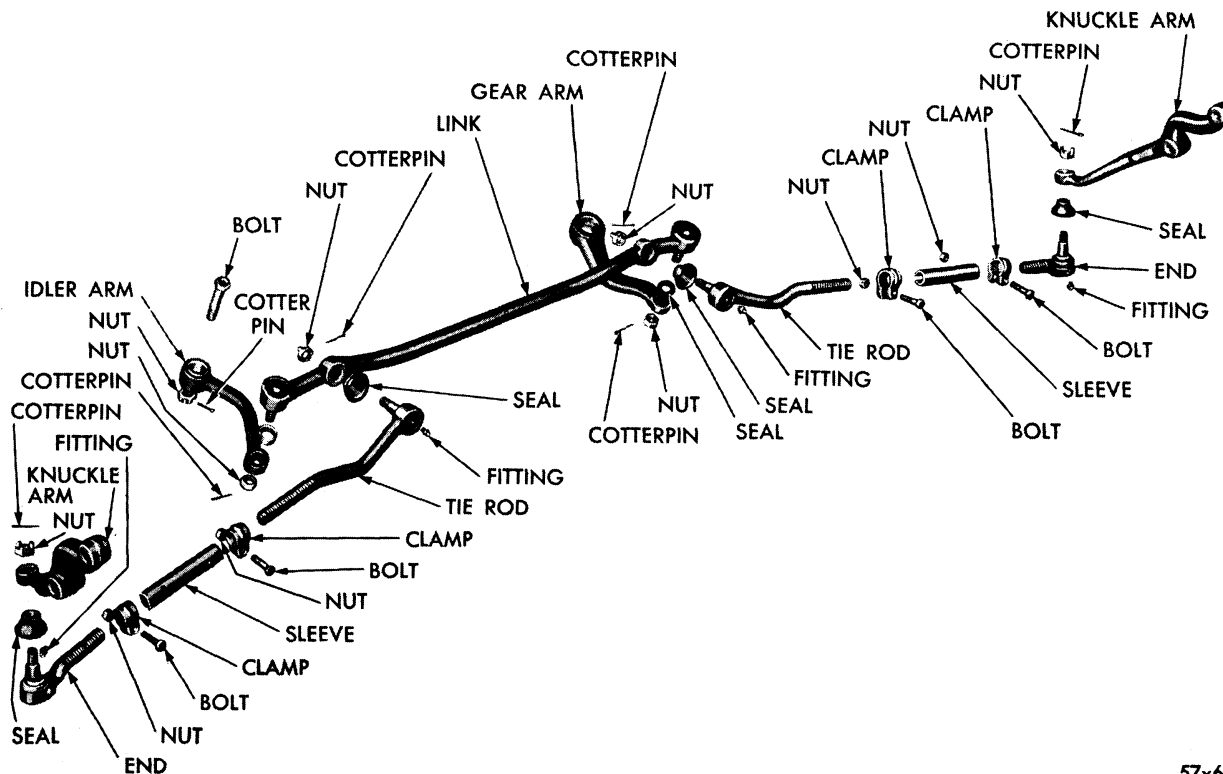

Fig. 5—Steering Gear Linkage
6. SERVICING THE IDLER ARM (Fig. 5)
7. STEERING KNUCKLE TIE RODS (Fig. 5)